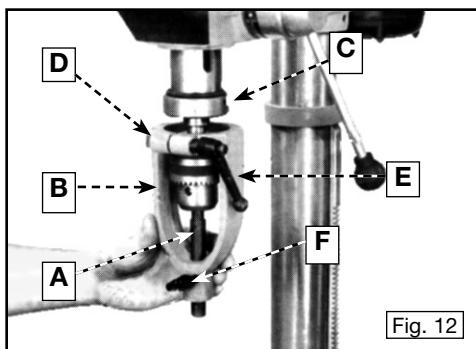

Fig. 12
1. Insert and lock the smaller diameter end of the alignment pin (A) Fig. 12 into the spindle.
2. Slide the chisel holder (B) Fig. 12 over the alignment pin and over the stop collar (C) of the drill press.
- NOTE:** Face the slot (D) in the chisel holder (B) toward the front of the drill press.
3. Tighten the thumb screw (F) Fig. 12 on the alignment pin first, then tighten the locking lever (E).
4. Loosen the thumb screw (E) and remove the alignment pin (A) from the spindle.